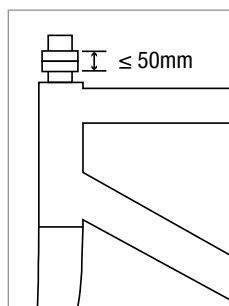

Figure 4
6. Add one or more spacers to steerer tube, ensuring the spacer stack does not exceed 50 mm (Fig. 4).